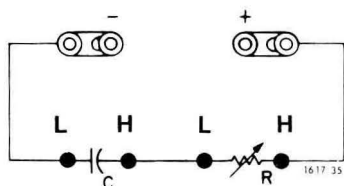

Figure 6-3. Connections for R and C in the D-dial check.
- Connect to the bridge a 1.0  $\mu$ F Standard Capacitor\*, such as GR 1409 in series with a decade resistance box, such as a GR 1433 (Figure 6-3).